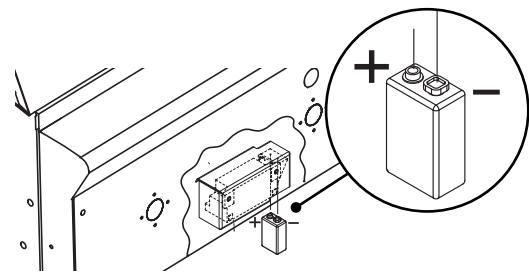

Fig. 27
- ① Remove drip pan.
- ② Open cart door (on cart model only).
- ③ Pull battery downwards (this may require use of pliers).
- ④ Re-install upward and push to snap (polarity shown in Fig. 27).